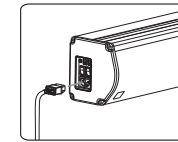

Figure 18
1. Plug the power cord into the power socket on the left end cap (Figure 18 - 19).